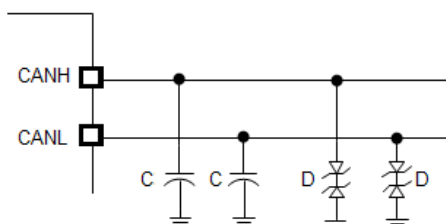
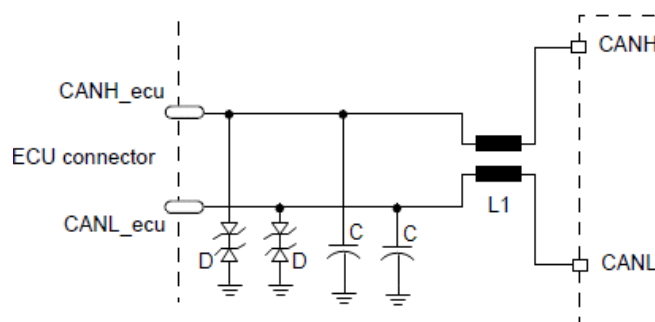

Figure 57. CANH and CANL ESD external protection typical application schematic
Figure 58. CANH and CANL typical application schematic
The MC33903/4/5 implements a highly robust CAN interface which can sustain ESD pulses up to +/-8 kV (Human Body Model) at the CANH and CANL pins. If application requires higher ESD voltage robustness, external protection components such as a transient voltage suppressor (TVS) are required to protect these pins. The MMB27VCLT1 (D) is recommended to achieve better ESD results (see Figure 57). Implementing this TVS will improve ESD performance up to +/-15 kV according to ISO 10605-2008 (ESD powered). Additionally, a 47 pF capacitor (C) should be placed on the CANH and CANL pins for noise immunity, ESD, and to lower noise emissions. Figure 58 shows the recommended circuitry for the CAN transceiver.